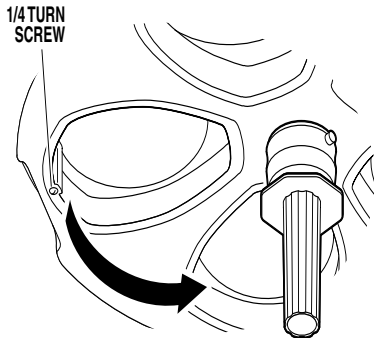

Figure 1-1.
a. Hold the diffuser/filter assembly with one hand, loosen the "1/4-turn" screw and lower the diffuser/filter assembly. See figure 1-1.